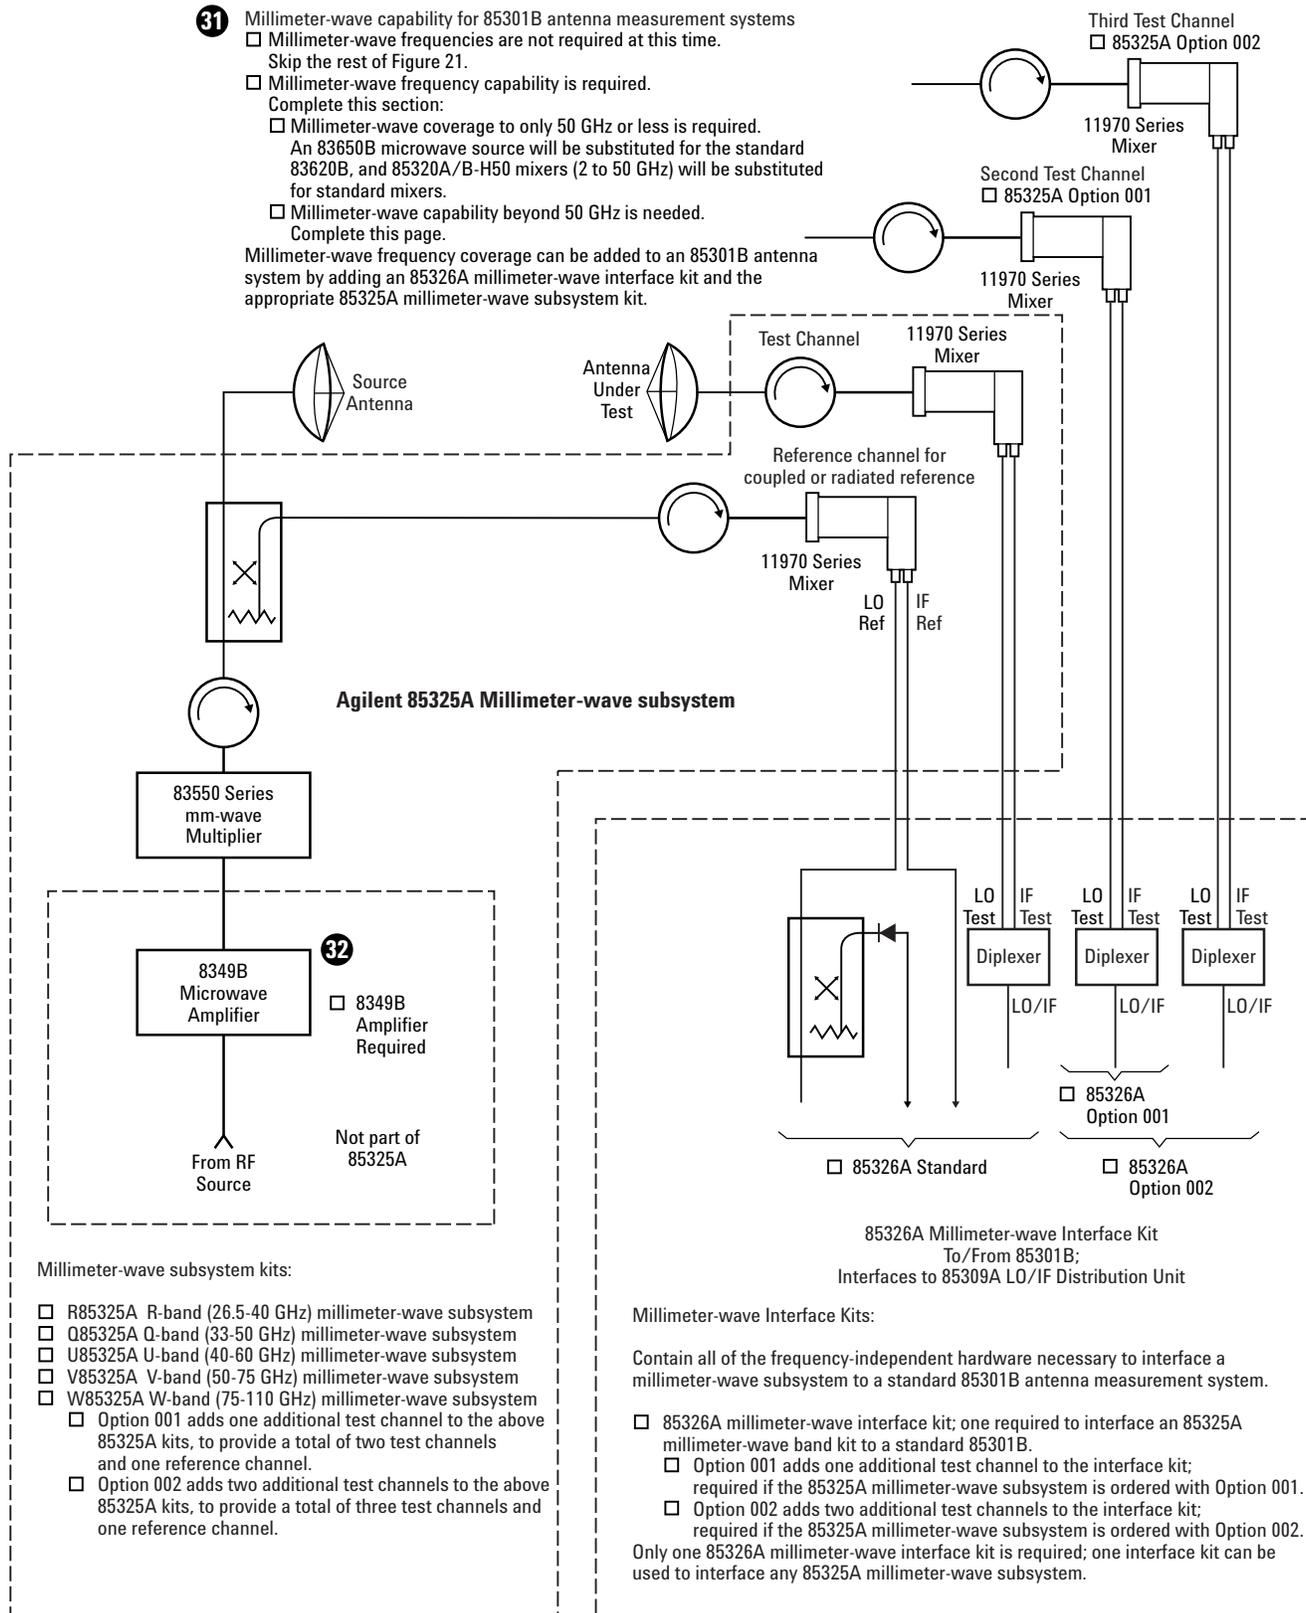

Figure 21. Millimeter-wave subsystem and interface kit
- Millimeter-wave frequencies are not required at this time. Skip the rest of Figure 21.